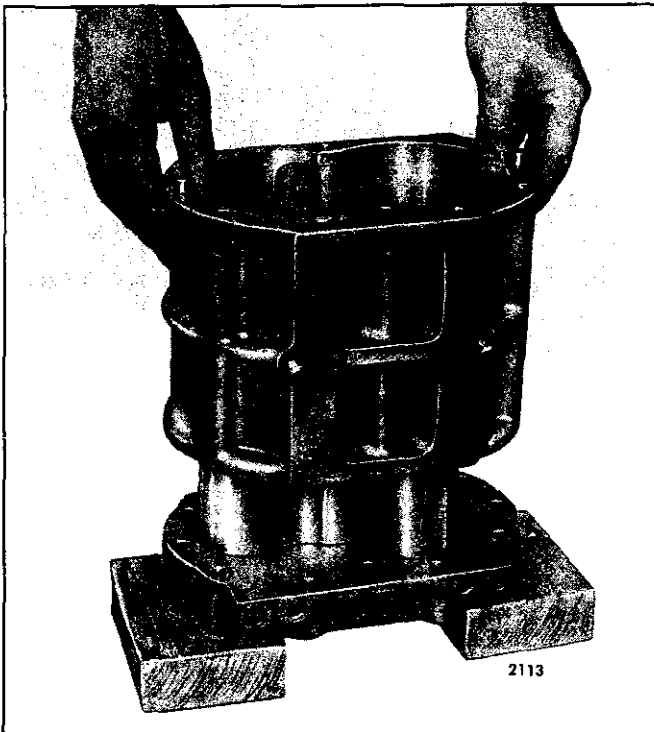

Fig. 14 – Installing Blower Housing Over Rotors
6. Install the blower housing over the rotors (Fig. 14).